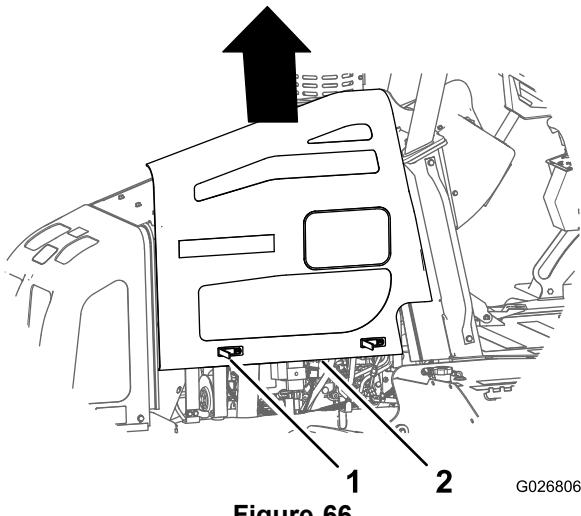

Figure 66
- 4. Lift the panel up and then away from the machine (Figure 66).